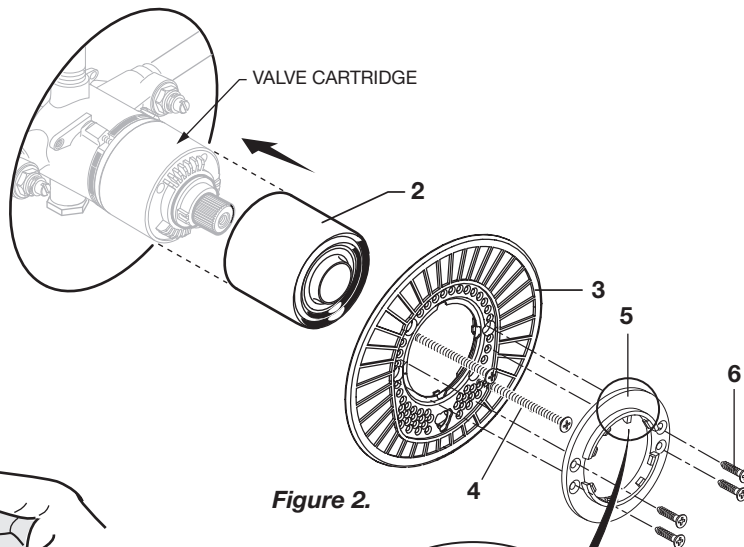

Figure 2.
- **Figure 2.** Push CAP (2) over VALVE CARTRIDGE until seated against stop.